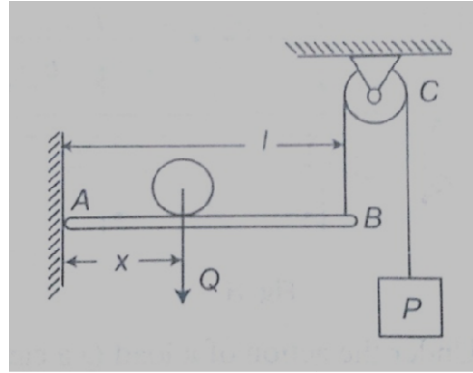

Figure 2.8
9. The beam AB in Figure 2.8 is hinged at A and supported at B by a vertical cord which passes over a frictionless pulley at C and carries at its end a load P as shown. Determine the distance x from A at which a load Q must be placed on the beam if it is to remain in equilibrium in a horizontal position. Neglect the weight of the beam.